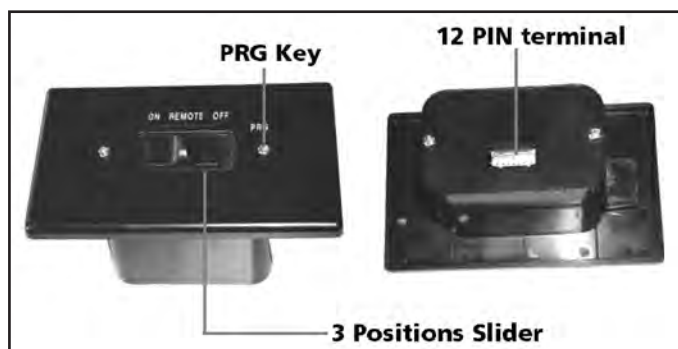

Figure 58: Proflame Receiver.
The Proflame Receiver (Figure 58) connects directly to the gas valve, stepper motor, DFC, and Fan Control Module with a wiring harness. The Receiver is powered by four (4) AA type batteries. The Receiver accepts commands via radio frequency from the Transmitter to operate the appliance in accordance with the particular Proflame system configuration. The Receiver three (3) position slider switch can be set to one of three positions: ON (Manual Override), Remote (Remote control), or Off.